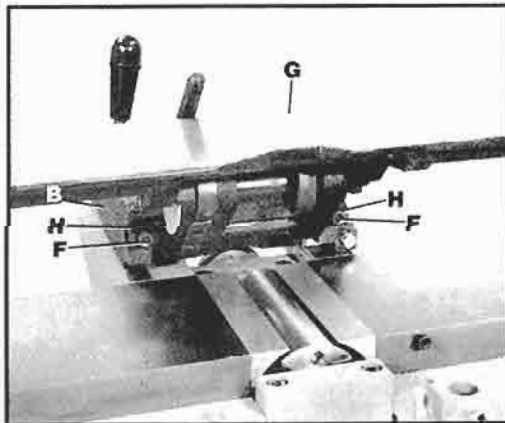

Fig. 7
3. Assemble the fence (G) Fig. 7, with the pivoting brackets (H) to the sliding bracket (B) using the two 1 – 3 / 16" long socket head cap screws (F) which were removed in **STEP 2**.